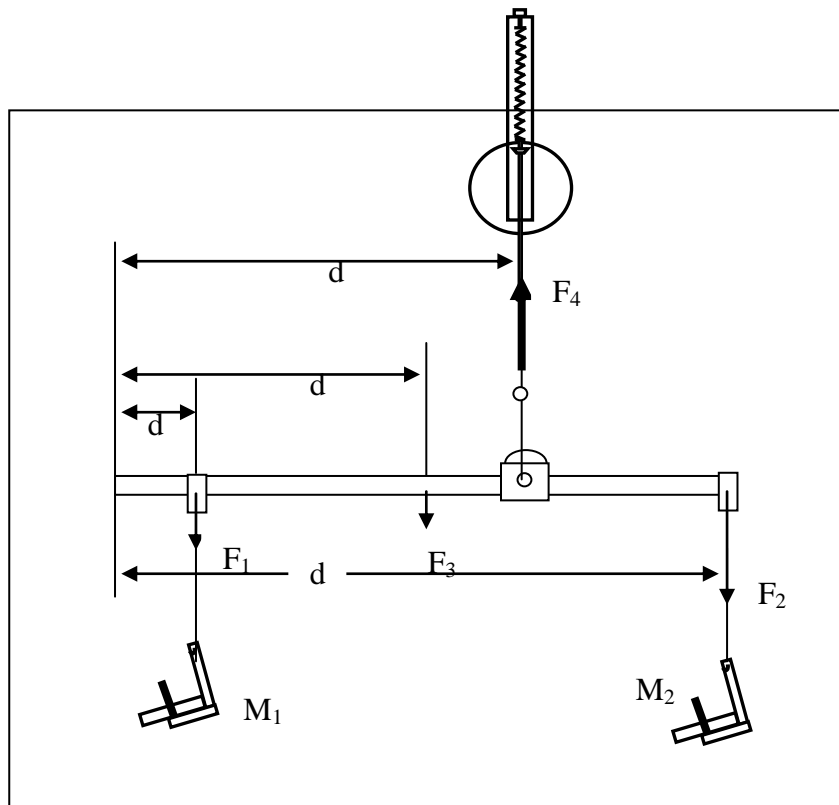

Figure 3.6: Changing the origin
4. In measuring the torques, all distances were measured from the point of suspension of the balance beam. This measures the tendency of the beam to rotate about this point of suspension. You can also measure the torques about any other point, on or off the balance beam. Using the same forces as you used in Table 2.2 above, remeasure the distances, measuring from the left end of the balance beam as shown in Fig. 3.6. Then recalculate the torques to determine the tendency of the beam to rotate about the left end of the beam. Record your data in Table 2.3. As before, indicate whether each torque is clockwise (cw) or counterclockwise (ccw).